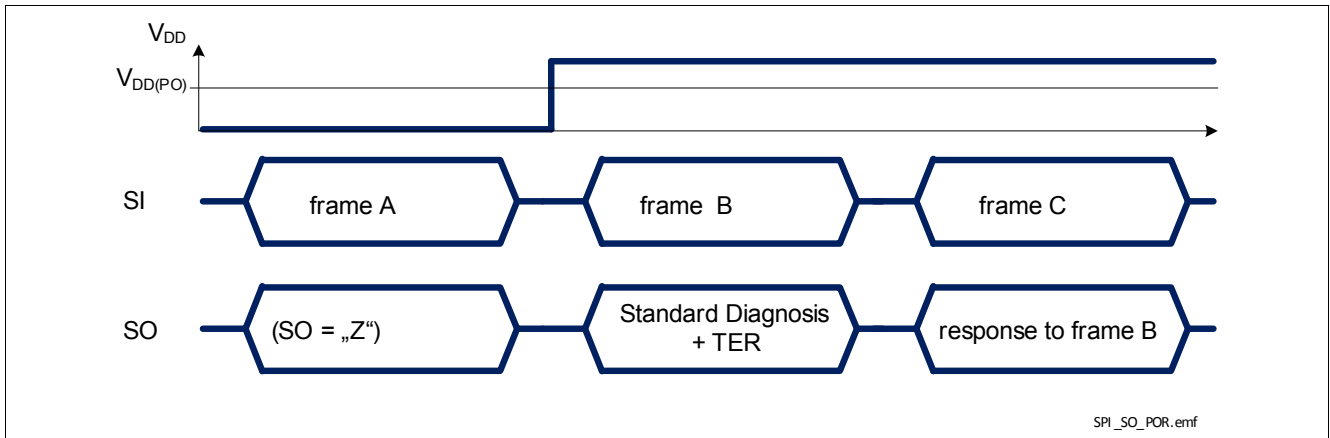

Figure 33 BTS54220-LBB response after coming out of Power-On reset at V_{DD}
- when BTS54220-LBB logic supply comes out of Power-On reset condition, as shown in Figure 33